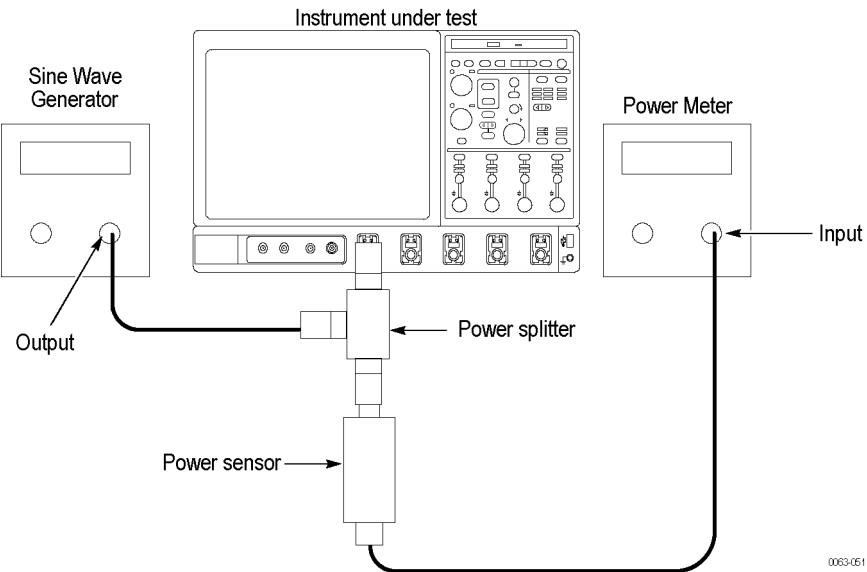

Figure 20: Analog bandwidth test hookup, < 3.5 GHz models
c. Hook up the test-signal source: Connect the sine wave output of a sine wave generator to **Ch 1** through a power splitter. Connect the power sensor of the power meter to the power splitter. (See Figure 20: Analog